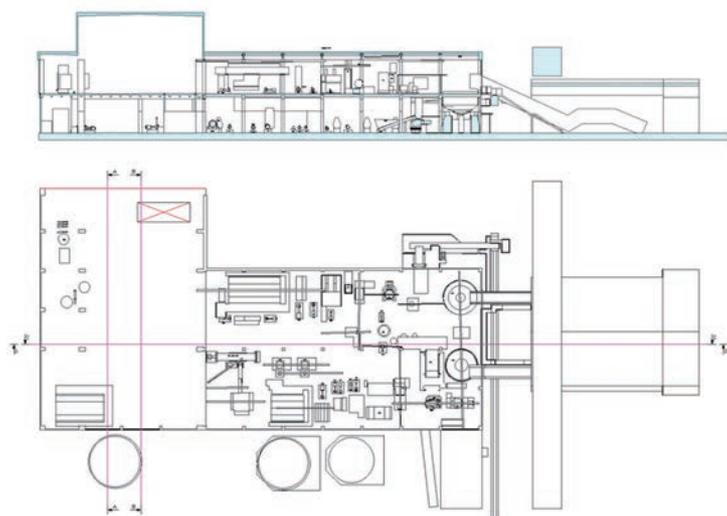
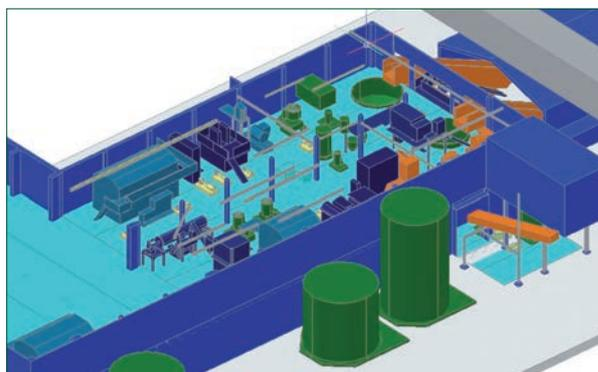

Figure 5: Plan de masse et section longitudinale
Figure 6: Modélisation 3D du local préparation de pâte
Les premiers éléments à livrer étaient les plans de masse à jour des 2 niveaux, ainsi que plusieurs vues en coupe longitudinales et transversales du bâtiment et des équipements (Fig 5). Pour ce faire, seuls la structure du bâtiments et les principaux équipements ont été modélisés en 3D (Fig 6).
as a simple function of cellulose and lignin fraction [30]. A tentative comparison of loss factor from microcrystalline cellulose and lignin extracted from tobacco midribs confirms that lignin has higher intrinsic losses than cellulose (Figure 5). The data also shows an important discrepancy between 2 lignin samples extracted from similar natural resources.
**Figure 5** Loss factor and real permittivity of microcrystalline cellulose and lignin samples extracted from tobacco midribs at 1 THz (replotted from [38,39]). (Error bars are based on typical values for THz TDS measurements, i.e. 2.5 % for  $\epsilon_r$  and 10% for  $\tan(\delta)$ ).
Finally, we have compared the intrinsic losses of several typical papermaking additives and other potential compounds that may be incorporated in paper to reduce dielectric losses in the THz domain (Figure 6). CMC (carboxymethylcellulose) is sometimes used to deflocculate cellulosic fibres and increase dry strength of paper [40]. CMC has higher intrinsic losses than cellulose [41]. Chitosan produced from sea shell chitin has been proposed to flocculate and retain fine particles in papermaking [42]: it also features high dielectric losses [43]. Bio-based plastics such as polylactic acid (PLA) has intrinsic losses similar to paper [44]. Olefin based plastics indeed have low losses [44] but may not be compatible with cellulosic fibres, not to mention environmental issues. Mineral oil possess very low loss factor [45], but causes toxicity problems in food contact applications, and contaminates the whole recovered paper chain upon recycling [46,47]. Interestingly, silica has very low losses [45] and is already used in papermaking in microparticle form to help retain filler and fines particles in the sheet [48]. It could be tempting to load the sheet with colloidal silica to reduce dielectric losses. On the other hand, montmorillonite, which is also used as a microparticle in retention systems [49] has high dielectric losses [50]. Exotic fillers such as dolomite and marble show high real permittivity but loss factor similar to paper [51]. Alumina has both high permittivity and low losses [50]. Finally, as already mentioned for lower frequency, calcium carbonate has the potential to reduce dielectric losses of paper around 1 THz [52]. It should be mentioned that the loss factor of starch, which is typically used to increase sheet dry strength, remains to be measured in the THz domain. Finally, it appears to be difficult to reduce the losses with typical papermaking additives: the most promising filler are calcium carbonate (possibly in aragonite form) and silica.
**Figure 6** Loss factor and real permittivity of paper and several potential additives at 1 THz (compiled from various sources: [21, 41, 43-45,50-52]). (Error bars are based on typical values for THz TDS measurements, i.e. 2.5 % for  $\epsilon'$  and 10% for  $\tan(\delta)$ ).